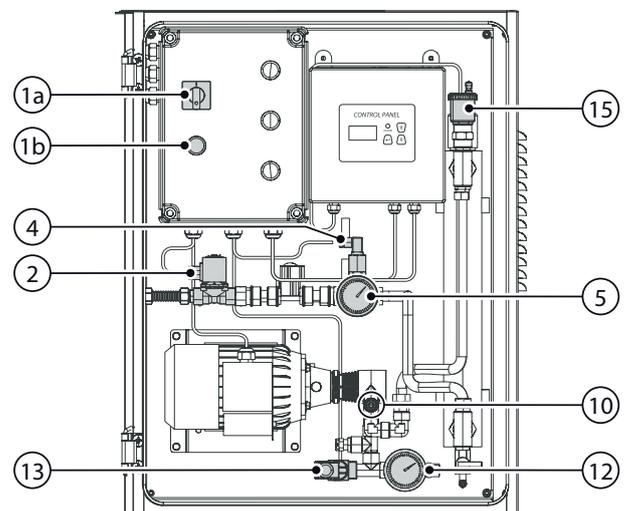

Fig. 7.b
8. Adjust the pump bypass by turning the screw (10 - Fig. 7.b), checking the outlet pressure gauge (12 - Fig. 7.b) until reaching a pressure of 10 bars.